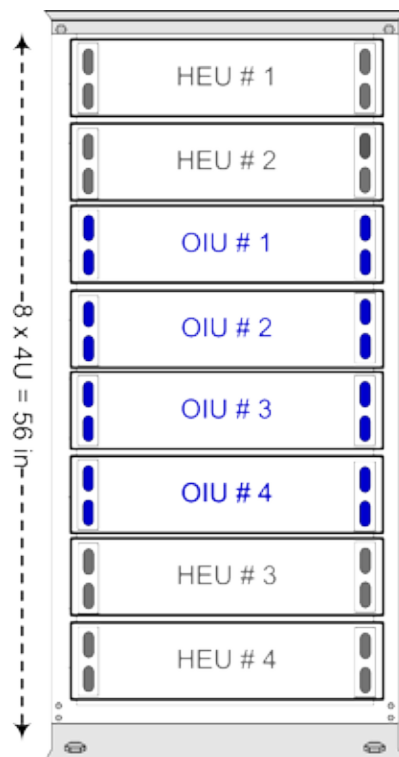
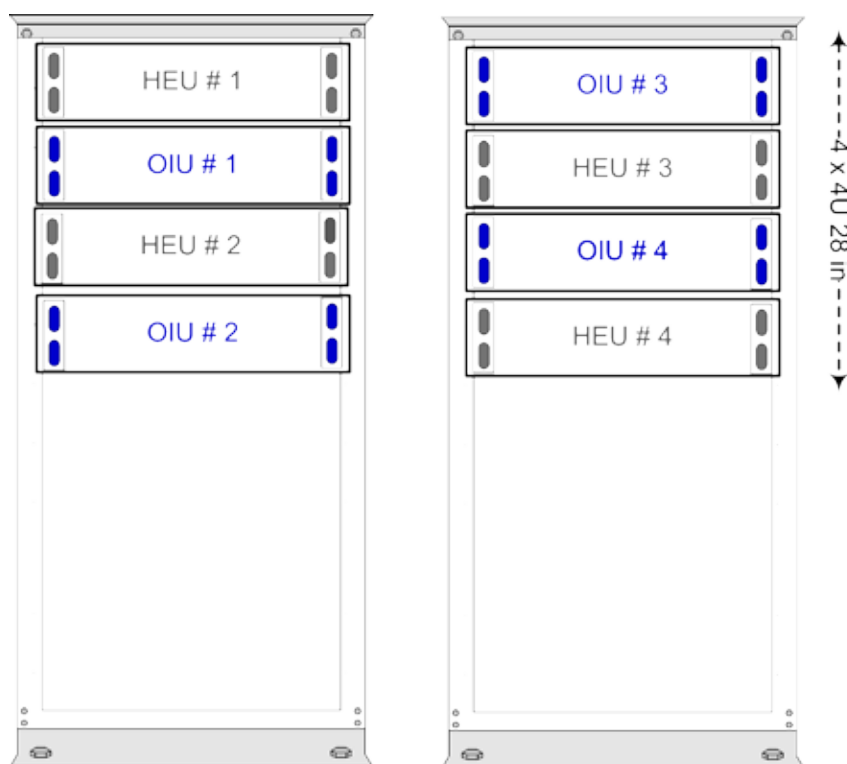

Figure 5-24. 4x4 Rack Installation Diagram – Dedicated.
Figure 5-25. 4x4 Rack Installation Diagram – Shared
2. Figure 5-24 and Figure 5-25 describe the optimal rack installations for 4x4 HEU-OIU configurations in dedicated or shared equipment scenarios.